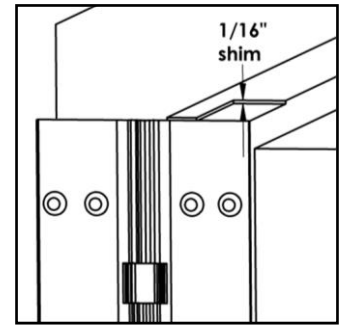

Fig. 1
1. With the hinge open, place the hinge frame leaf against the frame rabbet making certain that the alignment rib is flush against the frame face along its entire length. Position the top of the hinge $1/16"$ (**$1/8"$ maximum**) below the header. **Note: A $1/16"$ shim is recommended due to initial settling of the bearings.** (See Fig. 1)